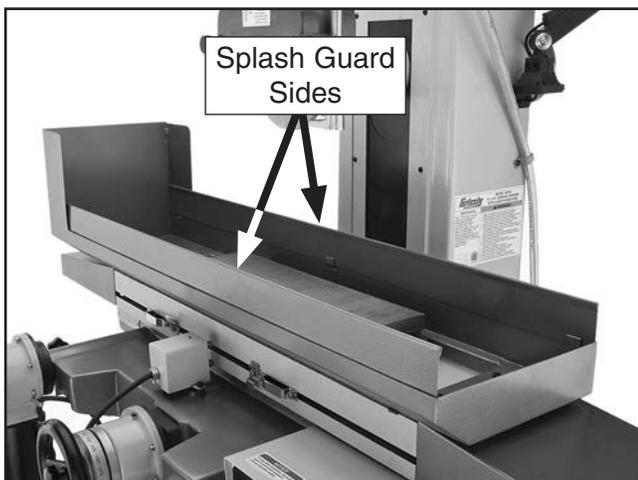

Figure 25. Splash guard sides installed.
23. Insert splash guard sides into slots on each side of splash guard base, as shown in **Figure 25**.